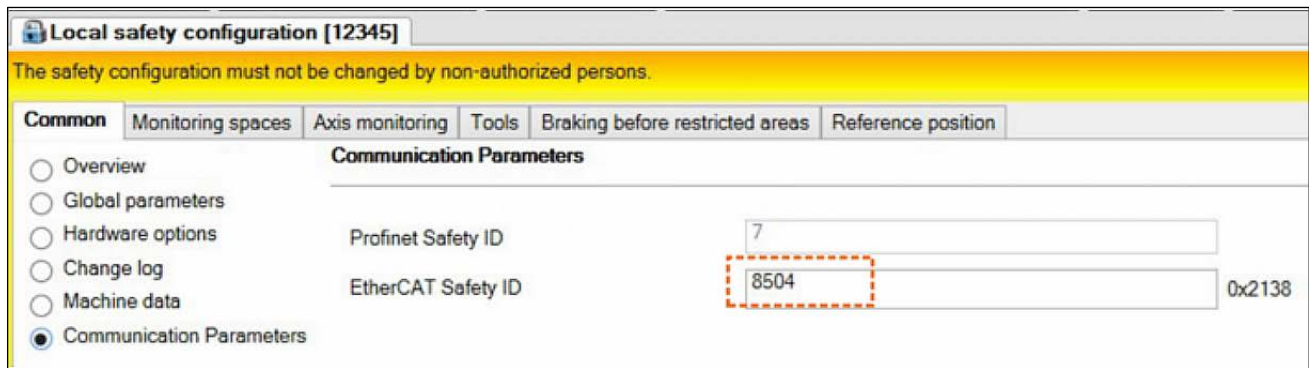

Figure 27: Setting the EtherCAT FSoE address of the KRC4
- ▶ The FSoE address must be entered here and must match the address set on the FSoE SubInstance. The standard FSoE address for the robot controller is 8504 (see Figure 27).